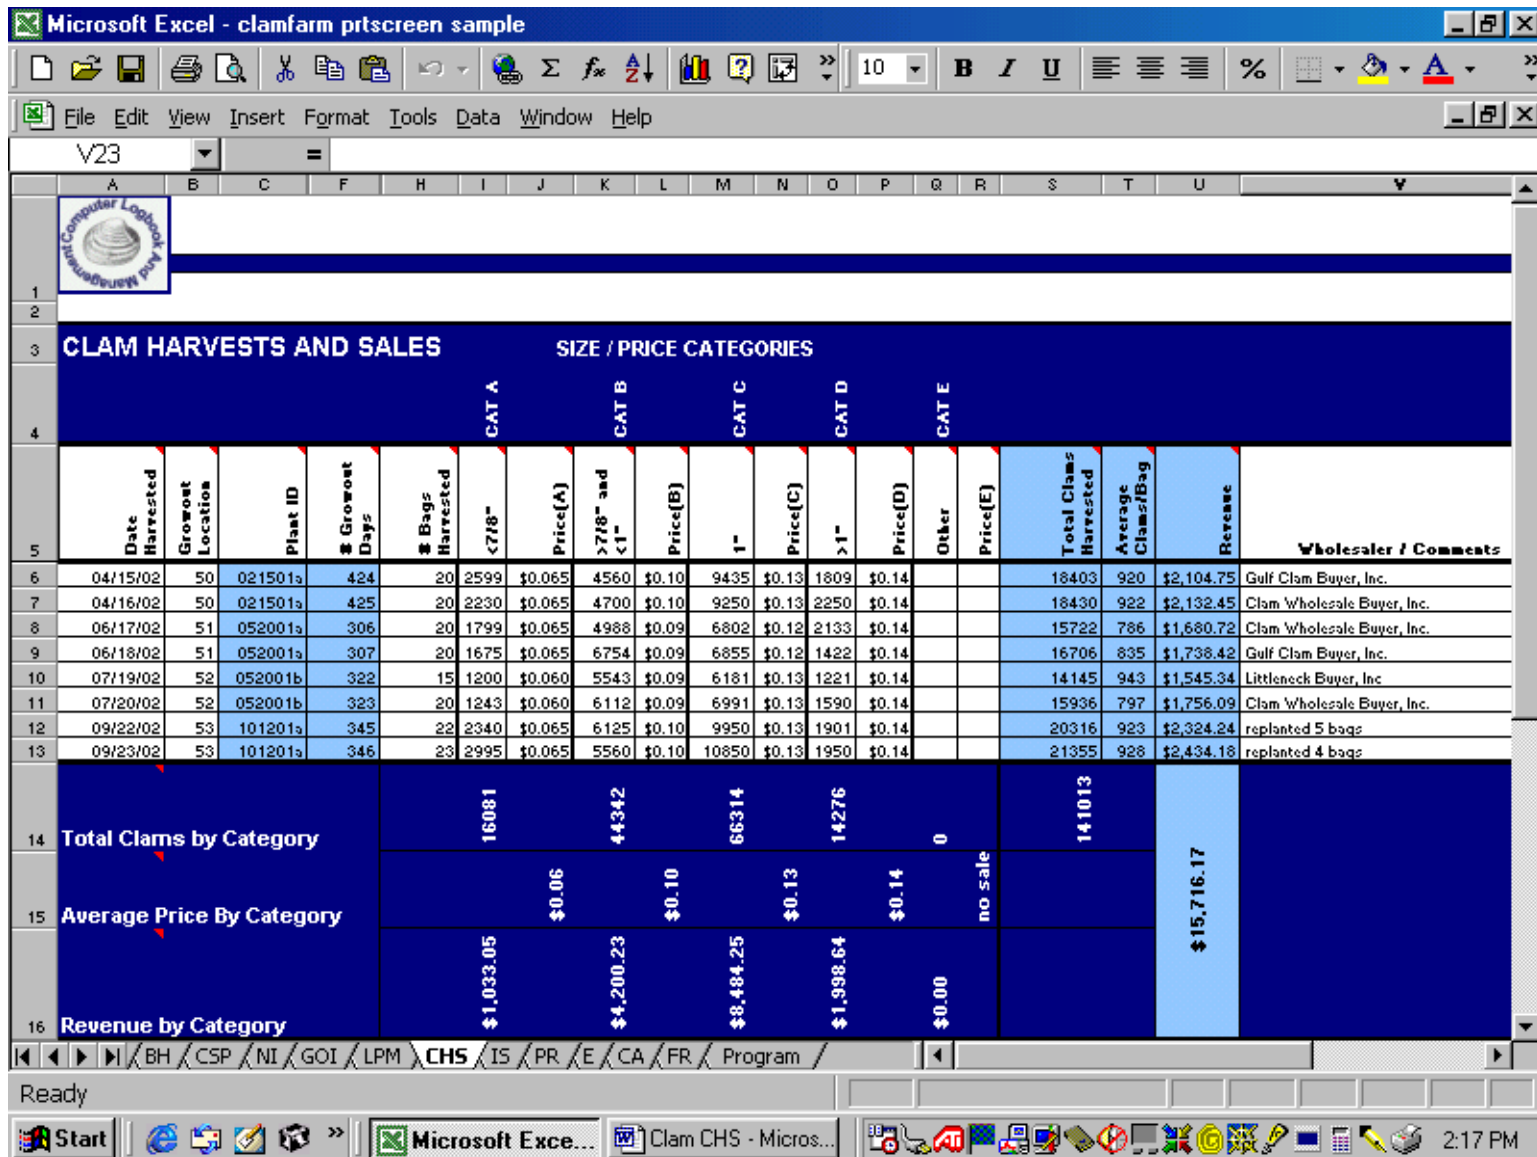

Figure 9.
**This module allows the user to keep track of clam sales by batch, or plant. (see Figure 9)**